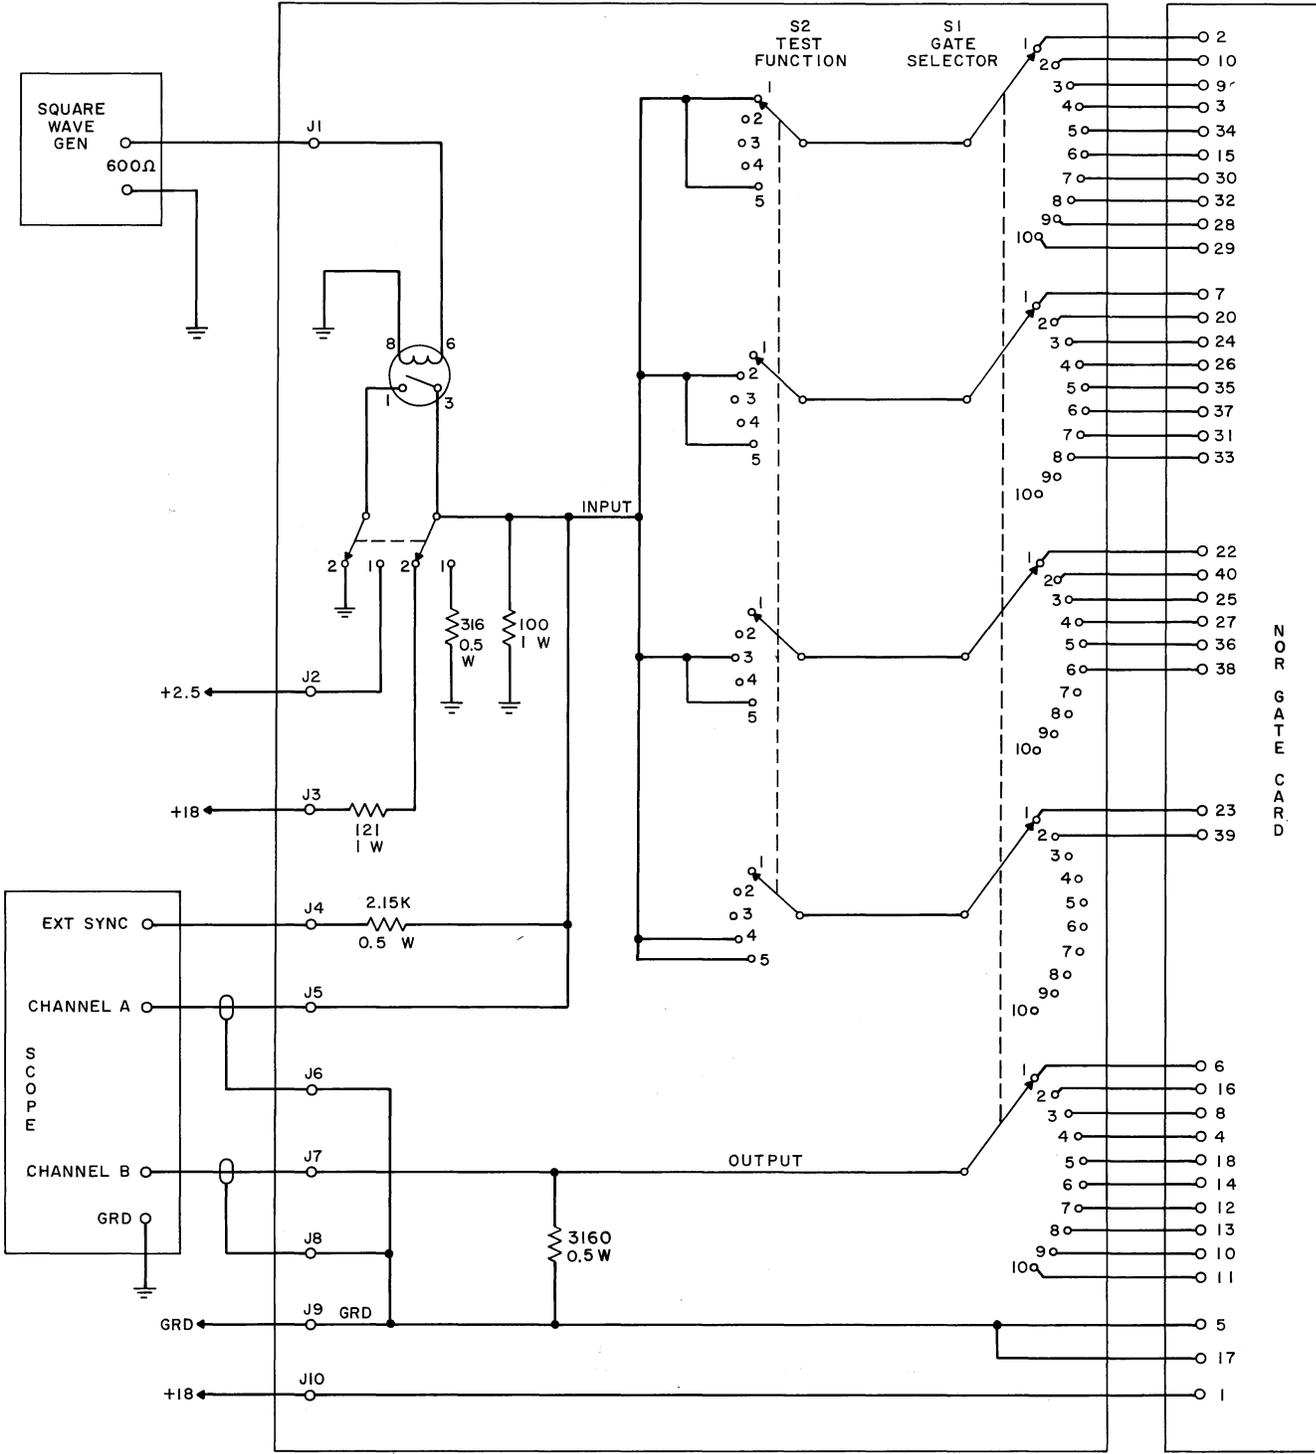

Fig. 1 - NOR Gate Test Set
- 1 - NOR gate test set such as shown in Fig. 1.
- (1) Connect the test circuit as shown in Fig. 1.